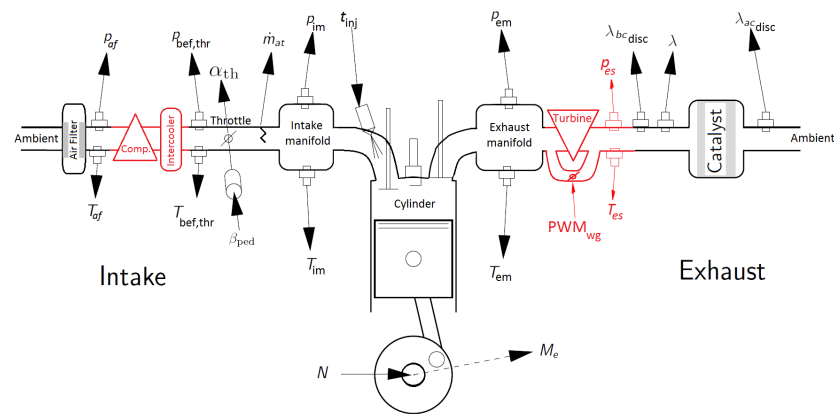

Figure 1.1: An overview of the air path with signals and components to be modeled in Project 1 (shown in black) and Project 2 (shown in red+black)
An overview of all input signals to the actuators and output signals from the sensors which should be included in Project 1 is shown in Figure 1.1 where the red signals and components will be used in Project 2 for a turbocharged engine. The notation seen in Figure 1.1 is to be used in hand-ins for the models.
1. **Considering Figure 1.1, the fact that the Enginemap data is obtained from a turbocharged engine and that a naturally aspirated engine is going to be modeled, which one of p_{em} or p_{es} signals in the Enginemap should be used in the task to parameterize the exhaust system component model previously mentioned? Why?**